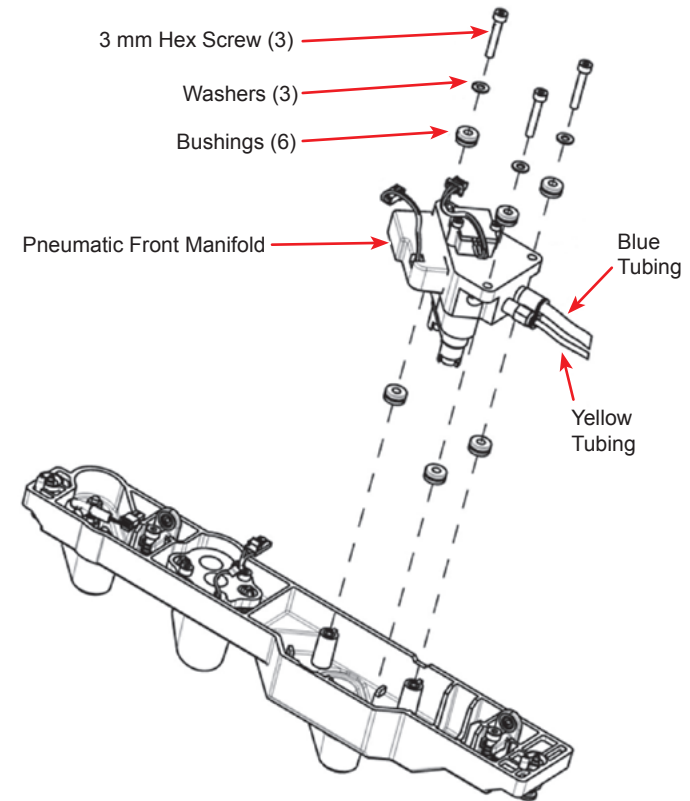

Figure 3-80 Pneumatic Front Manifold Removal
- 59.5 From the Connector Panel, remove three 3 mm hex screws, three washers, six bushings, securing Pneumatic Front Manifold (see Figure 3-80).